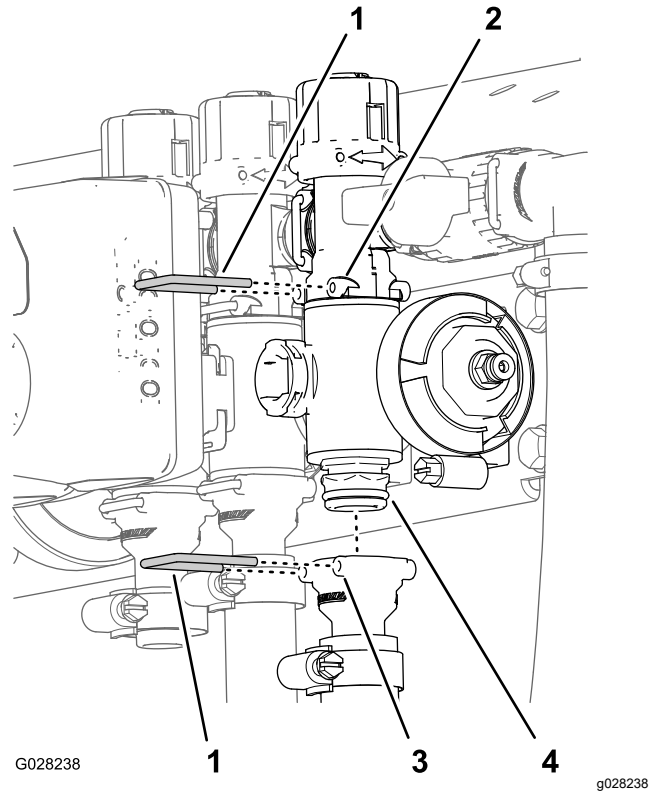

Figure 74
2. Remove the retainers that secure the outlet fitting to the section-valve manifold and the valve manifold to the bypass fitting (Figure 74).